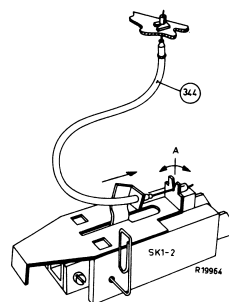

Fig. 27
#### 9. Replacement of Bowden cable 344 fig. 27.
- . If the inner cable should be too long or too short, this can be remedied by bending the lip A on switch SK1/2 (fig. 27).